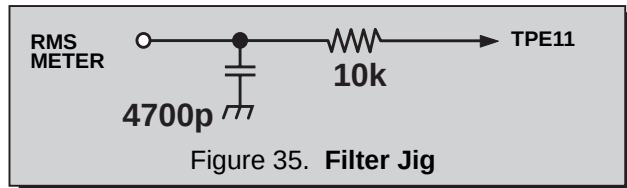

Figure 35. Filter Jig
1. Connect an RMS meter with filter jig as shown in Fig. 35.